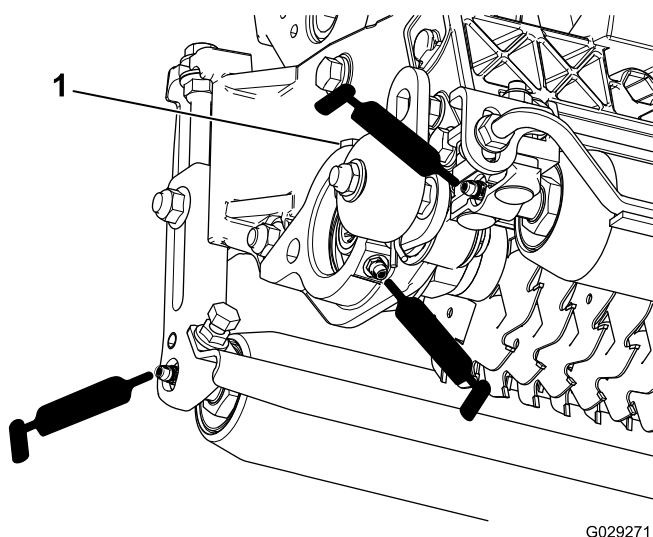

Figure 12
Install the reel motor and grease the side plate until excess grease oozes out of the relief valve (Figure 12).
Each verticutter has 5 grease fittings (Figure 12) that must be lubricated weekly with #2 general-purpose, lithium-based grease.
2. Apply grease until you see clean grease coming out of the roller seals and the bearing relief valve (Figure 12).